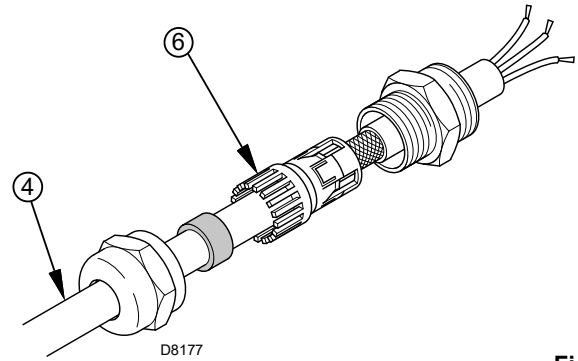

Fig. 24
- Shield the cable 4) running from the VSD (inverter), as shown in Fig. 24 and using the coupling 6);